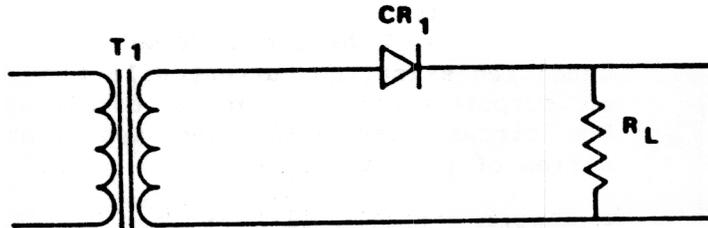

Figure 5
- (1) HALF-WAVE RECTIFIER: Figure 5 shows the schematic diagram for a half-wave rectifier. The half-wave rectifier is the simplest type of Rectifier used. It consist of only one diode, but for explanation purposes, a load resistance must be placed in the circuit to complete the path for current flow and to develop the output signal.
The half-wave rectifier in figure 5 is a positive half-wave rectifier. It is called a positive half-wave rectifier because it only uses the positive portion of the input sine wave and produces a positive pulsating DC signal.